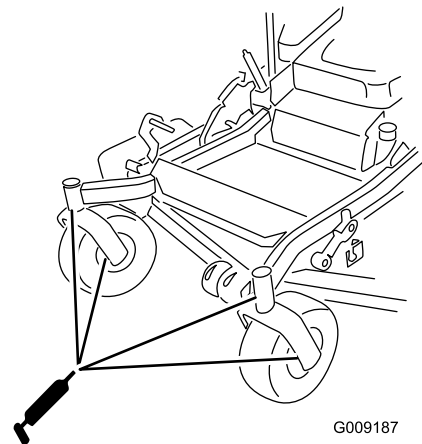

Figure 8
3. Check the grease in the caster pivots and caster wheel bearings (Figure 8).